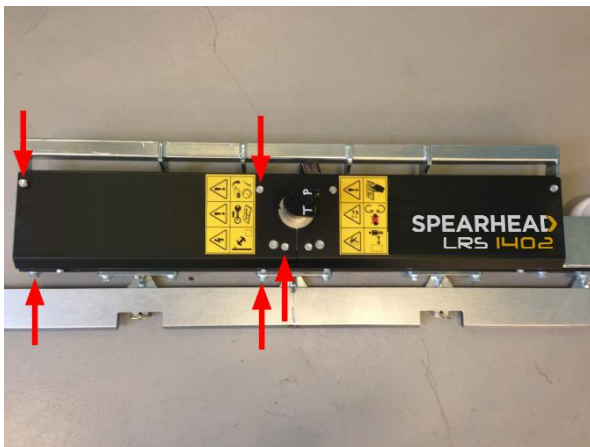

Figure 5.2
- 5.1.2.1 Remove the nuts fastening the protective cover, see Figure 5.2;